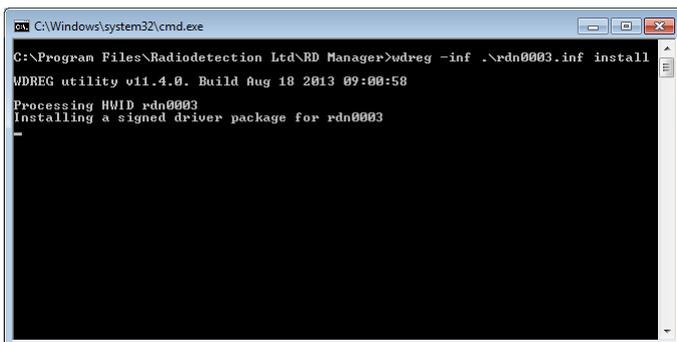

Figure 1.5 RD Manager drivers installation screen
- If your operating system is Windows Vista or later, wait for the RD Manager drivers installation process to complete, figure 1.5. You have completed the installation.